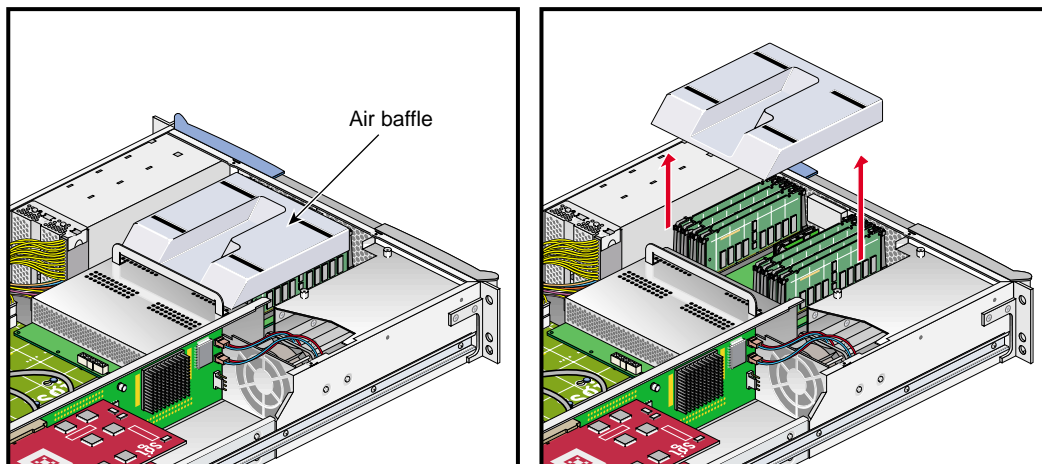

Figure A-7 Removing the Plastic Air Baffle
6. Remove the plastic air baffle covering the DIMMs, as shown in Figure A-7.
6. Remove the plastic air baffle covering the DIMMs, as shown in Figure A-7 in “Memory” on page 58.